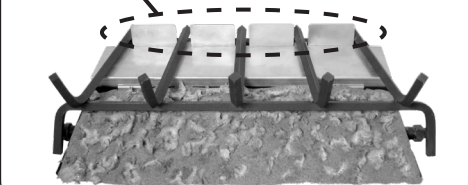

Fig. 1-4 Place grate on panel between tabs
4. Place the grate over the burner pan and panel so the grate fingers fall between the panel's rear tabs. Then pull the grate forward until it stops at the panel. See Fig. 1-4.